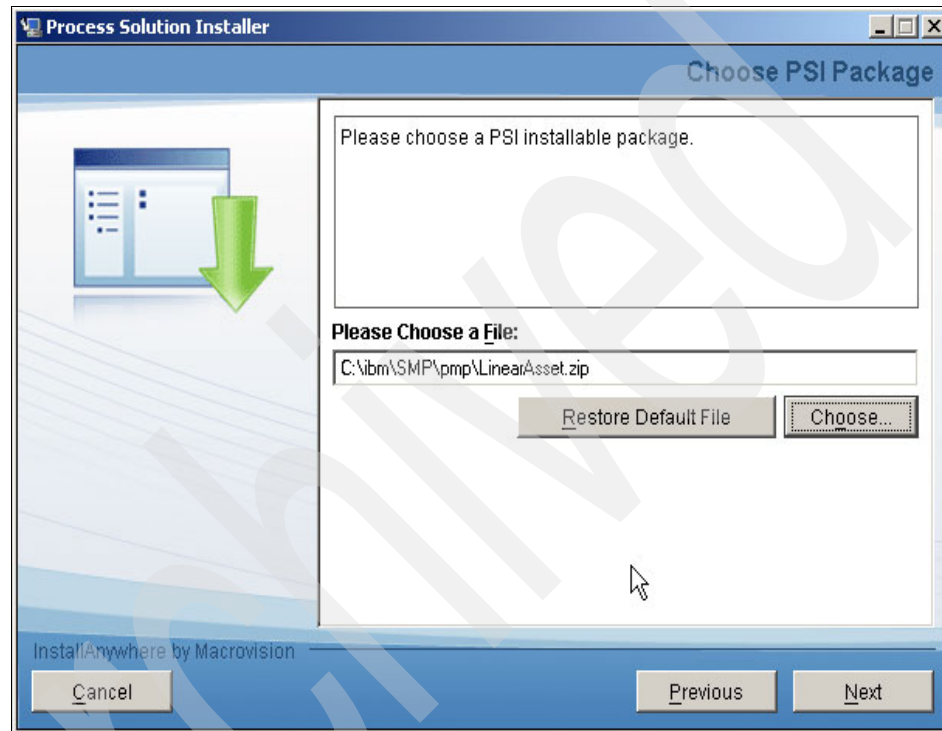

Figure 5-34 Process solution installation package deployment
1. In our example we install the Linear Assets Process Solution. Ensure you copy the Linear Assets Process Solution ZIP file to the following path before continuing the next step (see Figure 5-34):